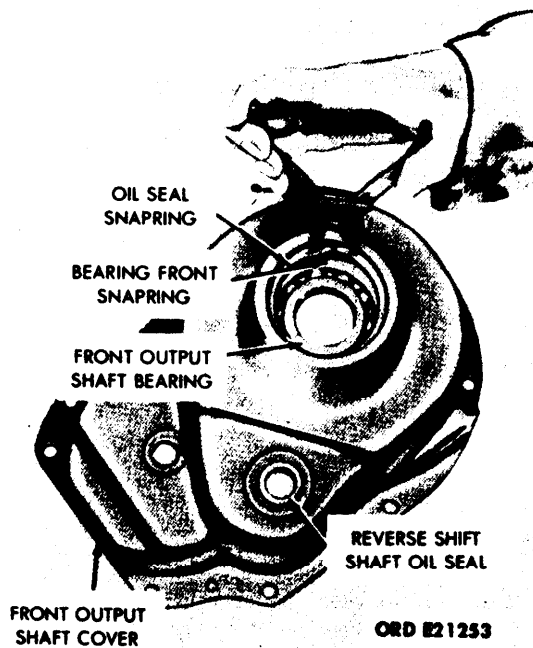

Figure 4-43. Front Output Shaft Cover — Disassembly.
- (1) Remove the output shaft oil seal snapping (fig. 4-43). Discard the oil seal. To remove the seal from the cover, place in a press and exert pressure upon the front bearing thrust washer.
- (2) Remove the reverse shift shaft oil seal, using a suitable tool, and drive the shift shaft seal from the output shaft cover. (See fig. 4-43.).
- c. Front output shaft cover (fig. 4-43).